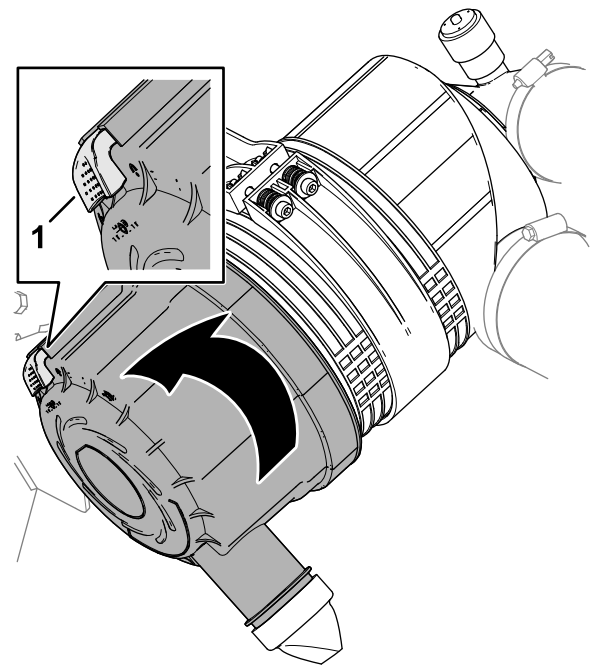

Figure 119
4. Pull the latch outward and rotate the air-cleaner cover counterclockwise (Figure 119).